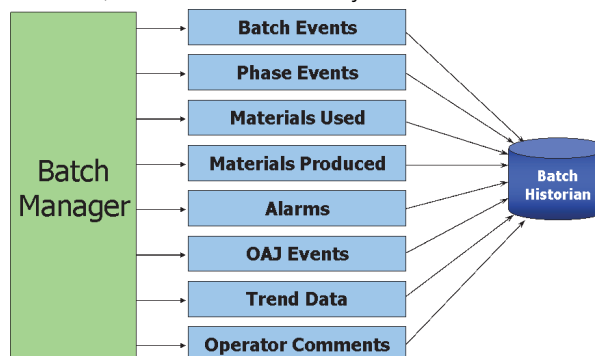

Figure 8. Batch History (EBR)
- ▶ EBR events are the event data the Batch Manager captures and logs to the Batch Historian when batches are executing (refer to Figure 8). All these events are stored with time,